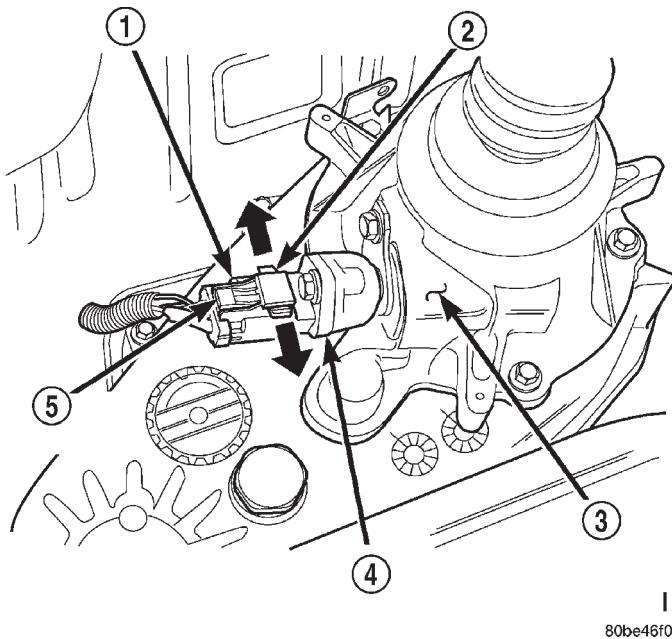

Fig. 43 VSS Location—4WD Shown
The Vehicle Speed Sensor (VSS) is located on the speedometer pinion gear adapter. If equipped with 4WD, this adapter is located on the transfer case extension (left side) (Fig. 43). If equipped with 2WD, this adapter is located on the extension housing of the transmission (left side).
- (1) Raise and support vehicle.
- (2) Disconnect electrical connector from sensor by pushing slide tab (Fig. 43). After slide tab has been positioned, push in on secondary release lock (Fig. 43) on side of connector and pull connector from sensor.